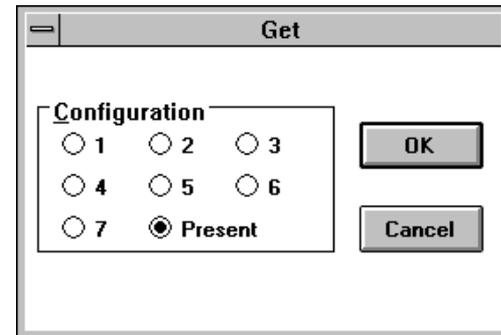

Figure 24. Getting a GMM Configuration
2. Select Present (for the configuration now in use) or 1 through 7 (for a configuration memory) in the dialog box (Figure 24).
1. With a file open, select Instrument - Get Configuration. The Get dialog box (Figure 24) opens.